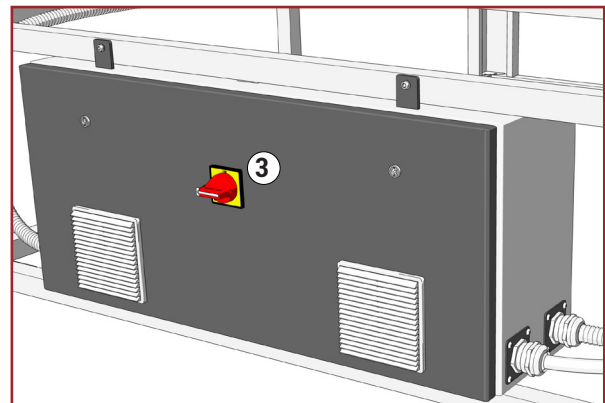

Fig.14
The main switch (3), which is located on the electrical cabinet, supplies the oven with power (see Fig.14).